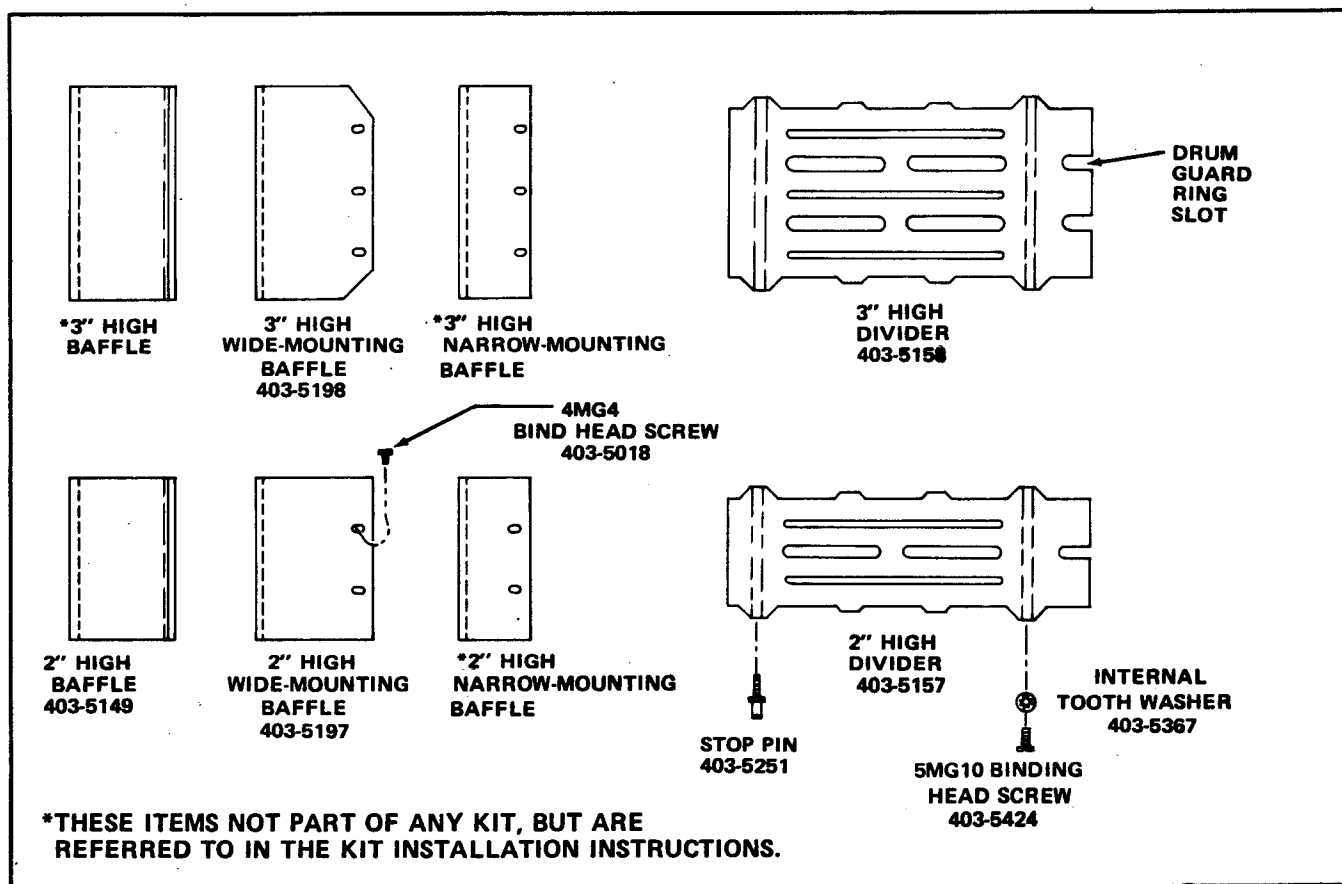

FIGURE 1
To make part identification easy, Figure 1 shows by scale drawings, the various parts included in the Kit.
- E. Install the Dividers, included in the Kit (2 High Divider 403-5157 or 3 High Divider 403-5158), in the appropriate positions and attach each Divider to the bottom Drum Plate at the large circle of holes with a Stop Pin 403-5251 and a Lockwasher 403-5367. Attach each Divider at the small circle of holes with a 5MG10 Binding Head Screw 403-5424 and a Lockwasher 403-5367. All the attaching parts required are included in the Kit. Be sure the added Dividers are properly and evenly positioned in the Drum and that the Drum Guard Ring(s) is in the Slot(s) in the inner edge of the Dividers. See Figures 1 and 2.
Drum and that the Drum Guard Ring(s) is in the Slot(s) in the inner edge of the Divider. See Figures 1 and 2.
included in the Kit. Be sure the moved and added Dividers are properly and evenly spaced in the Drum and that the Drum Guard Ring(s) is in the Slot(s) in the inner edge of the Dividers. See Figure 1 & 2.